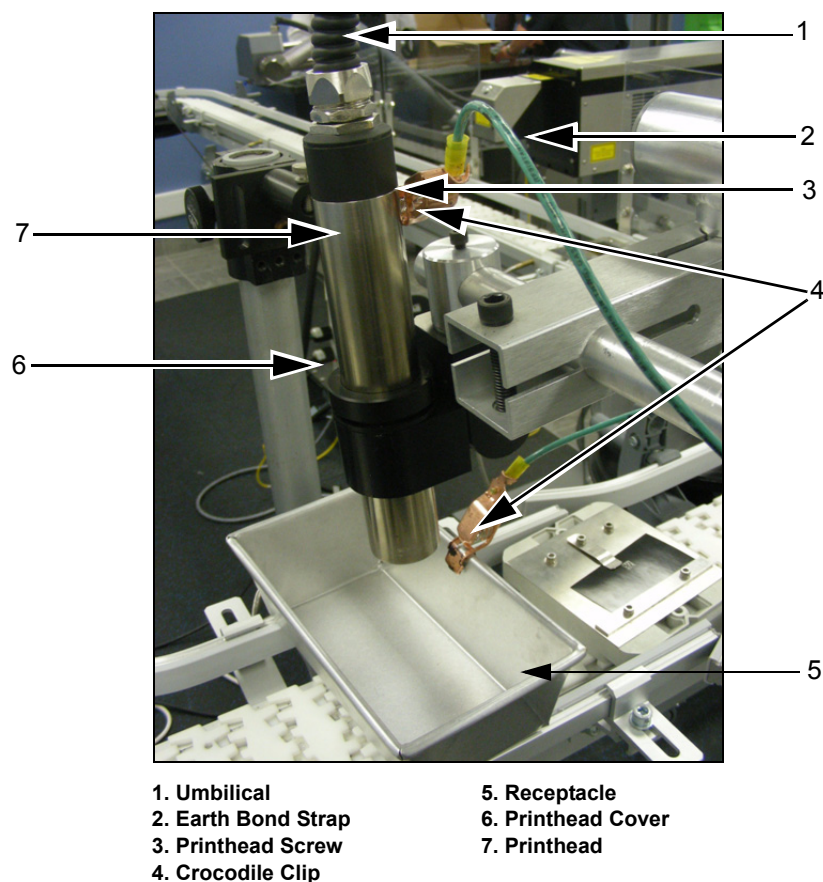

Figure 7-1. Printhead and Receptacle
- 1 Make sure that the printhead cover (item 6, Figure 7-1 on page 7-3) is attached.
- 2 Use a metal or other conducting receptacle (item 5, Figure 7-1) to collect the printhead fluid.
- 3 Connect one end of the earth bond strap (item 2) using crocodile clip (item 4) to the receptacle. Make sure that the connection is rigid.
- 1 Remove the printhead cover (Figure 7-1 on page 7-3).